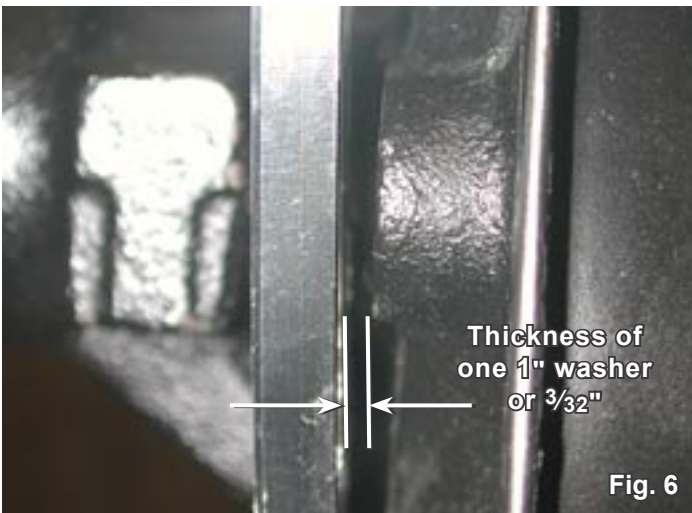
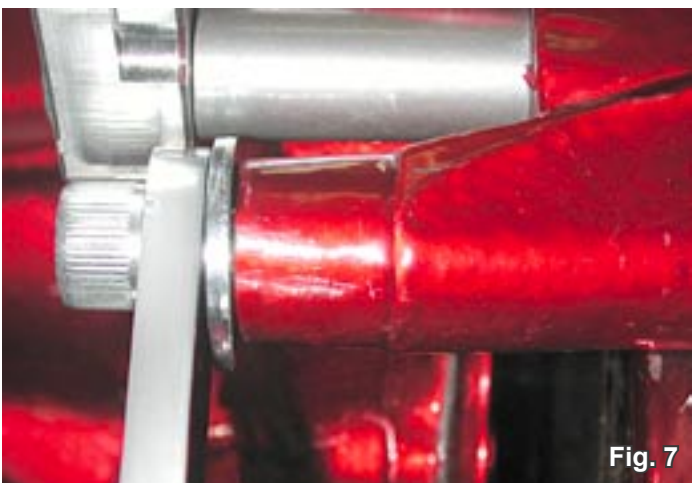

Fig. 6
Fig. 7
6. Referring to (fig. 6) check distance between upper mount bracket and power steering pump. This distance should be approximately the thickness of one (1) $\frac{3}{8}$ " x 1" spacer washer ($\frac{3}{32}$ "). If this distance is too great it may be necessary to move the pump forward. This is accomplished by placing one or more spacer washers between the forward lower bracket and the water pump mount (fig. 7). Moving one spacer will move the pump forward approximately $\frac{3}{32}$ ".